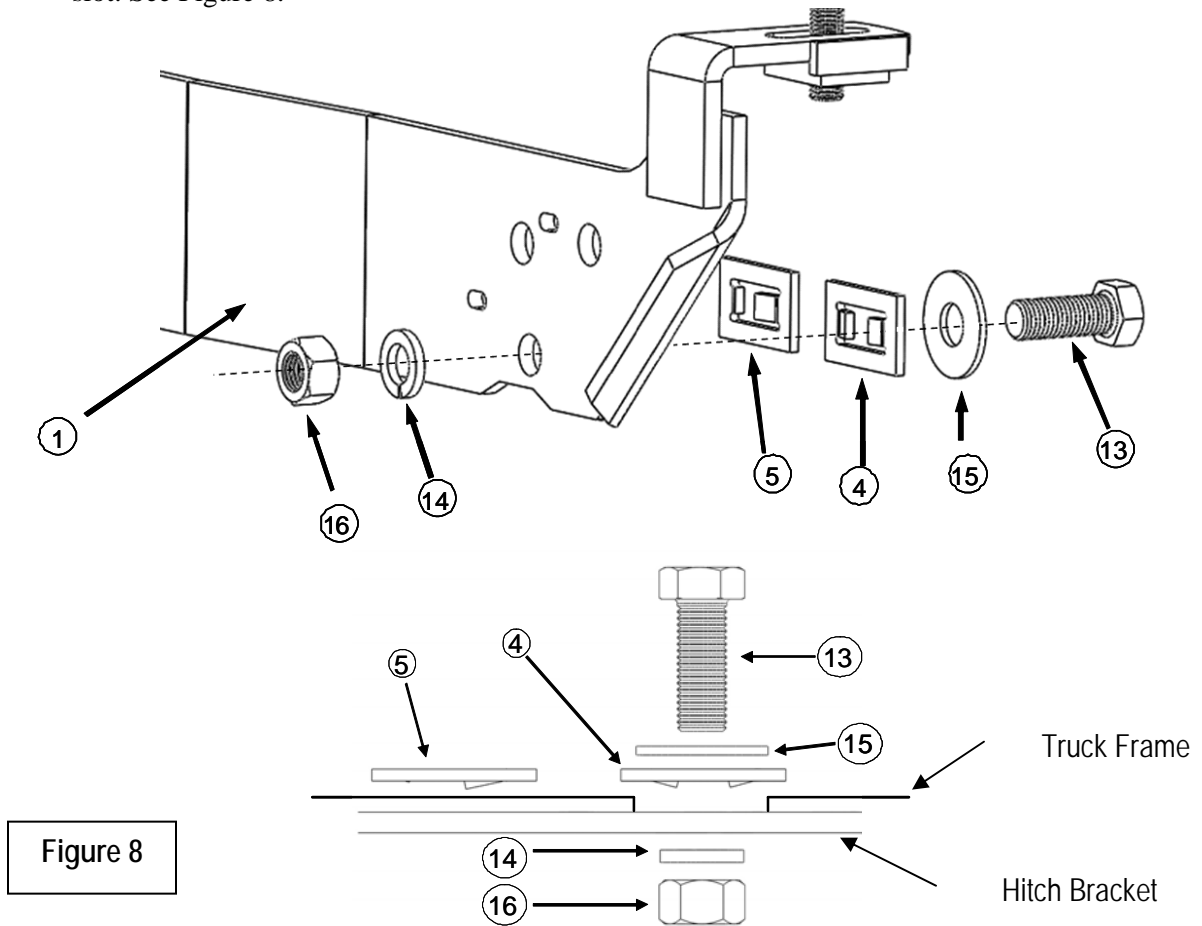

Figure 8
10. At the rear of each frame bracket there are two large attachment holes. Choose the hole which lines up with the existing hole in the truck frame. Bolt frame bracket to truck frame with 3/4" fasteners as shown in Figure 8. Be sure to use one of the alignment spacers (#4 or #5) that will best line up with the bolt and large slot in the truck frame. Alignment spacer must rest fully into the large frame slot. See Figure 8.